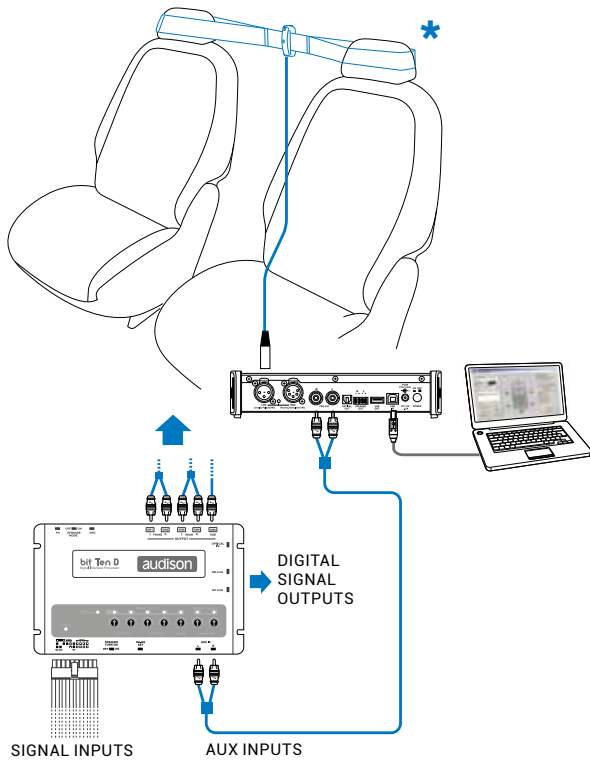

Fig 1.
1. Connect the bit Tune to the Audison bit processor, as shown in fig. 1, 2 or 3 (see points **A**, **B** and **C**).